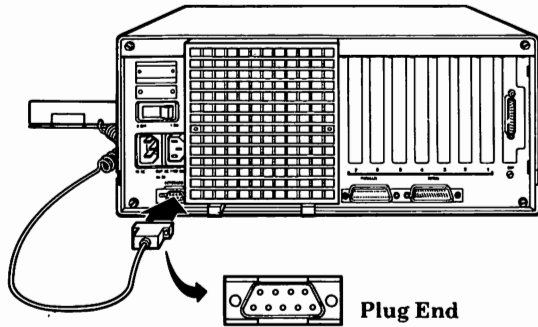

Figure 1-9. Back view of the processor and keyboard.
- Look at the end of the plug on the keyboard cable. Notice that the ring around the pins is wider on one side. Turn the plug so that the wider side is down, as shown in Fig 1-9.